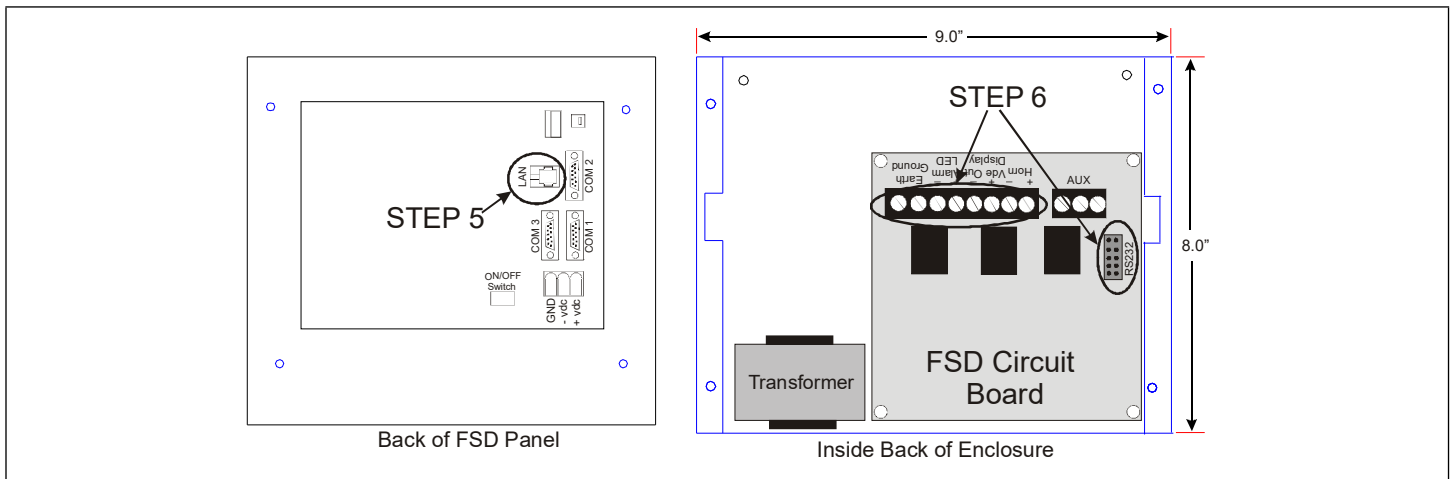

Figure 4 - Wiring Layout of FSD Enclosure
- STEP 5: Plug the Ethernet cable into the RJ45 connector (LAN) on the back of the FSD's display module (P/N 750-5100) as indicated by **Step 5 of Figure 4**.
- STEP 6: Reconnect the 8-pin connector and RS232 cable to the circuit board in **Step 6 of Figure 4**.